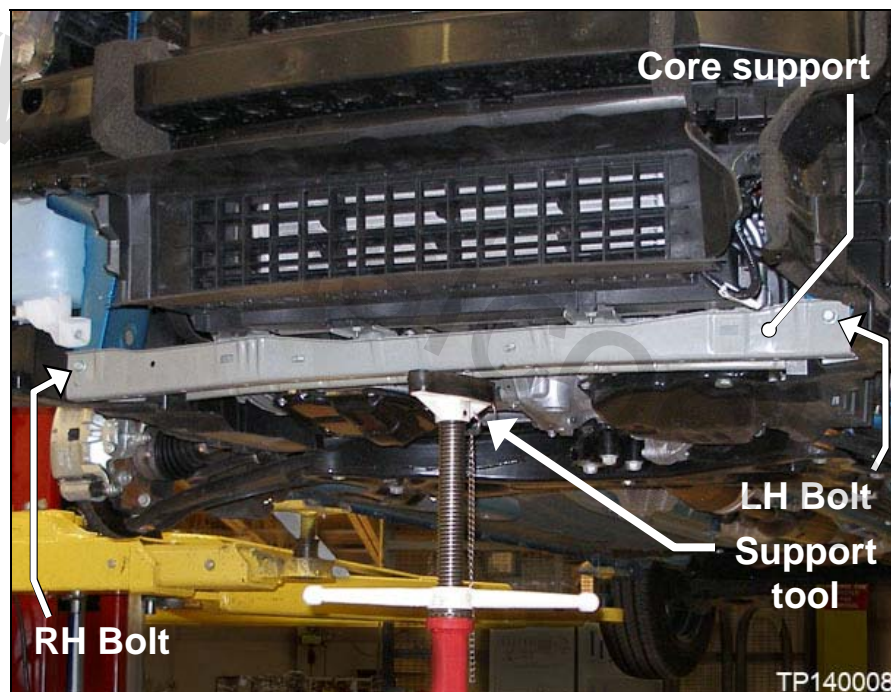

Figure GS8
1. When interference is found at the shutter's bolt holes: Loosen the two (2) lower radiator core support bolts (see Figure GS8).